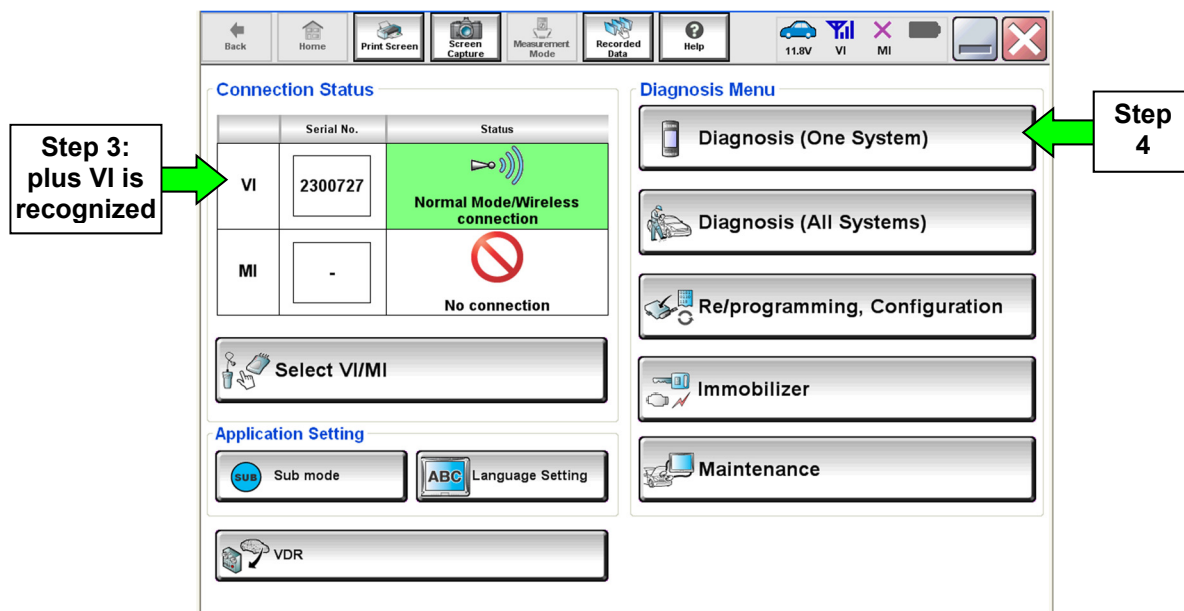

Figure 12
1. Return to the C-III plus Home screen (see Figure 12).